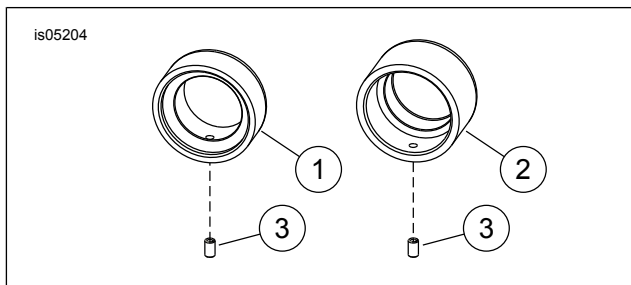

Figure 1. Rear Axle Nut Cover Kit
- See Figure 1. Partially install a set screw (3) into the threaded hole in each axle nut cover (1, 2).
- Tighten the axle nut-cover set screws (3) securely .